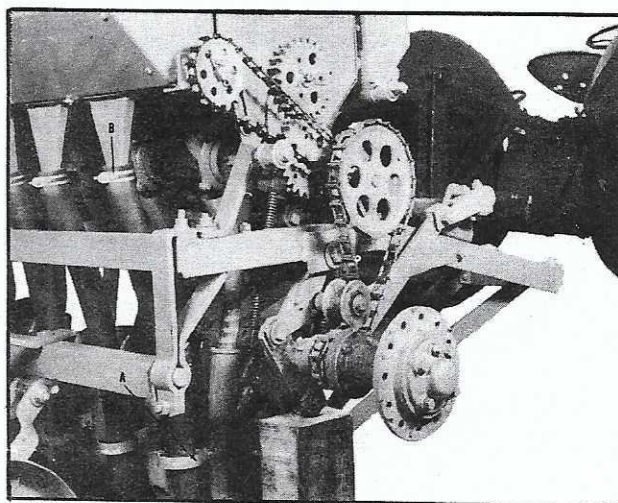

Fig. 9C
11. Install drive chain assembly as shown in Fig. 9C.
12. Install seed tubes to grain drill as shown in Fig. 9C.
9. Bolt the 13 fertilizer tube clamps, A, to rear of seed boots. Fig. 9C.
10. Install the 13 fertilizer tubes with clamps, B. Fig. 9C.